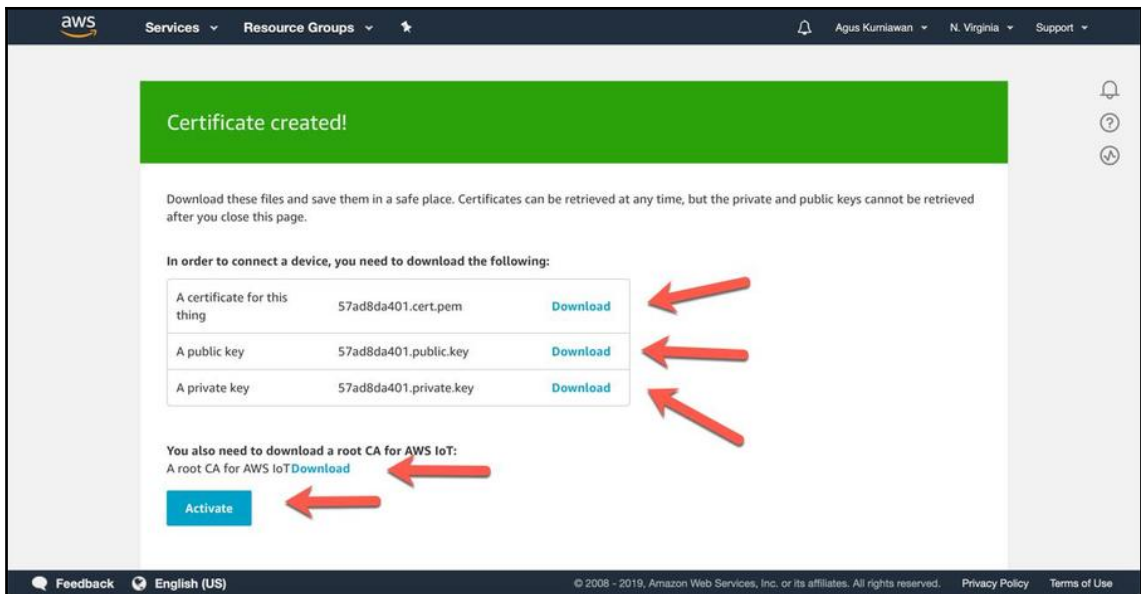

Figure 10.6: A result of generating device certificates
14. After clicking on the button, you should get your device's certificates, as shown in *Figure 10.6*.
You should put all the certificate files shown in *Figure 10.6* into the `certs` folder of the project folder. Then, rename your certificate files as follows: